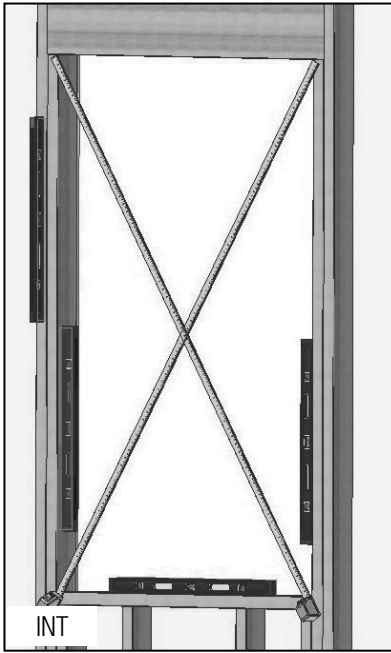

FIG. 2
- D) Verify the rough opening is flat, plumb, level and square. (Fig. 2)
- E) Take diagonal measurements to check for square. (Fig. 2)